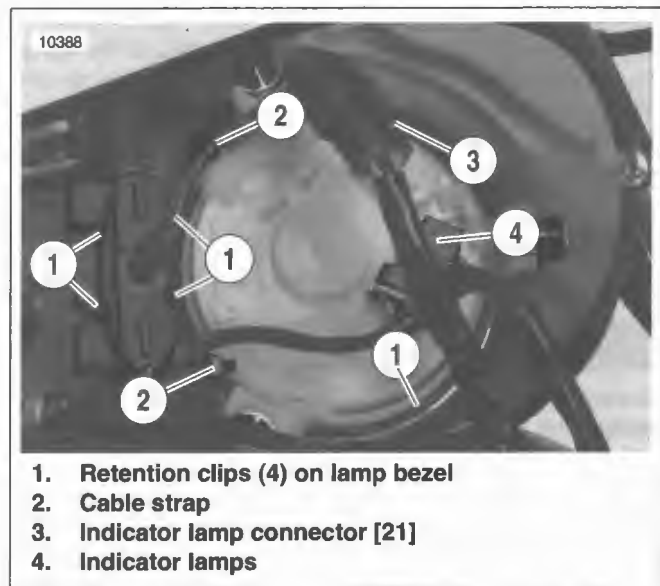

Figure 8-82. Indicator Lamp Mounting: FXSTD
3. See Figure 8-82. Remove wiring for indicator lamps from cable strap (2) on back of speedometer.
4. Detach indicator lamp connector (3) [21].
5. Disengage all four retention clips (1) to free indicator lamps (4) from lamp bezel.
2. See Figure 8-82. Secure the indicator lamps inside.
3. Fasten wiring for indicator lamps with cable strap (2).
4. Attach indicator lamp connector (3) [21].